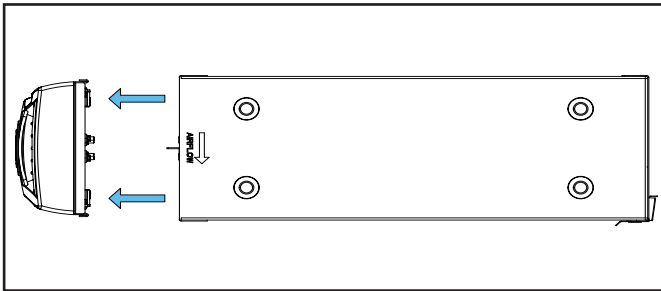

Figure 11 Door Removal
Step 2: Remove the Door Assembly from Whole Home Air Cleaner by pulling away from the unit assembly. Place on the flat and clean working surface with interior components facing up. See Figure 11.